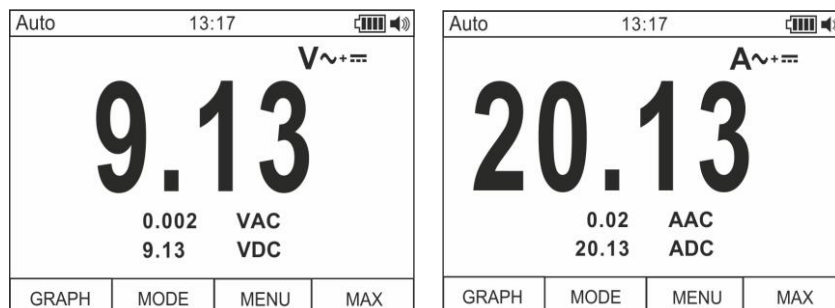

Fig. 3: AC+DC voltage or current measurement description
2. Press the **F2** key selecting the “**V $\sim$ + $\sim$** ” or “**A $\sim$ + $\sim$** ” modes (see Fig. 3)